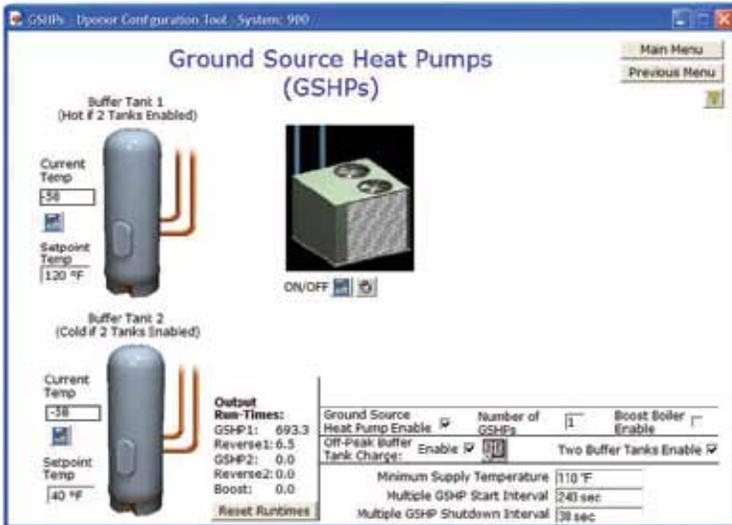

Figure 2.7-3: Ground Source Heat Pump Enabled Screen
2. Click on the Ground Source Heat Pump Enable checkbox to display graphics shown in **Figure 2.7-3**.